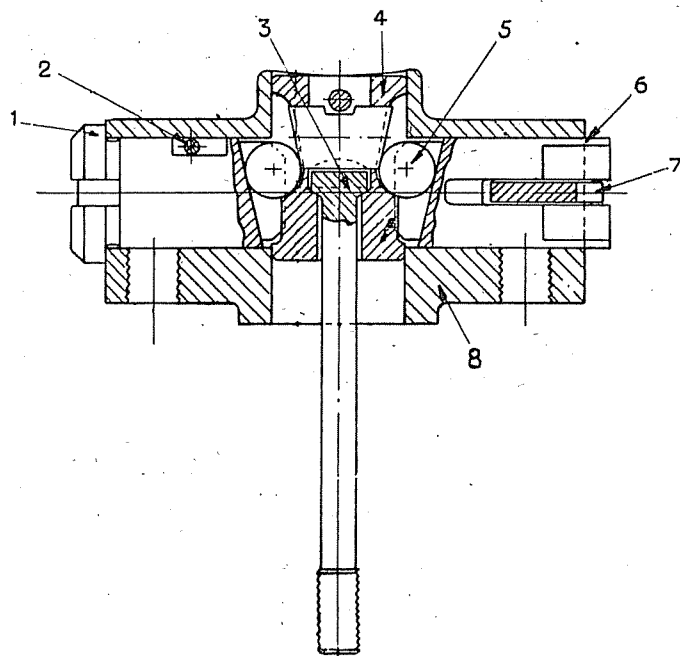

Fig. 25—Section of Expander Assembly.
The expander unit (See Figure 25) to which is attached the hydraulic cylinder and handbrake connector mechanism, is secured to the brake shoe support plate by means of studs and nuts which must be kept securely tightened. When the brake is applied, the draw link (3) is pulled outwards and moves between the rollers (5), which in turn force the tappets outwards. The brake shoes, being located in the slotted ends of the tappets, are forced apart until the linings are in contact with the brake drum.